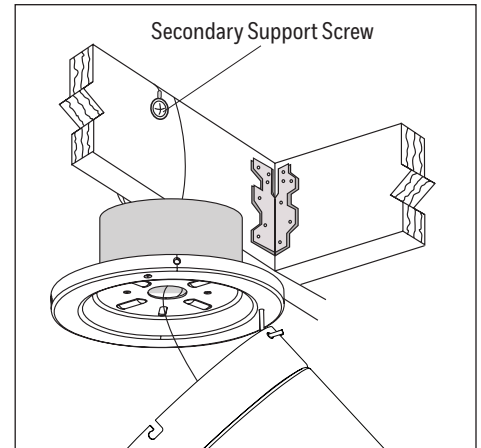

Figure 3.3
- Tighten the secondary support screw, securing the braided cable (Figure 3.3).